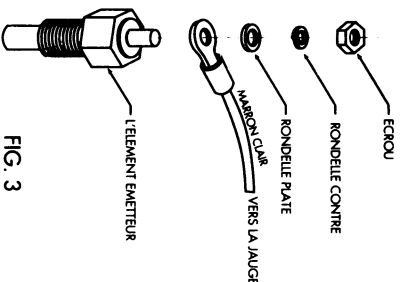

FIG. 3
9. Using a ring terminal, connect the tan wire from gauge to the sending unit. Fig. 3.